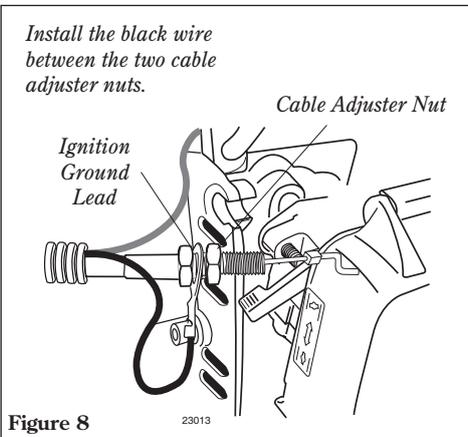

Figure 8
2. Install the black wire between the two cable adjuster nuts as shown. See Figure 8.
3. Connect the S-shaped end of the throttle cable to the throttle lever on top of the carburetor. See Figure 8.